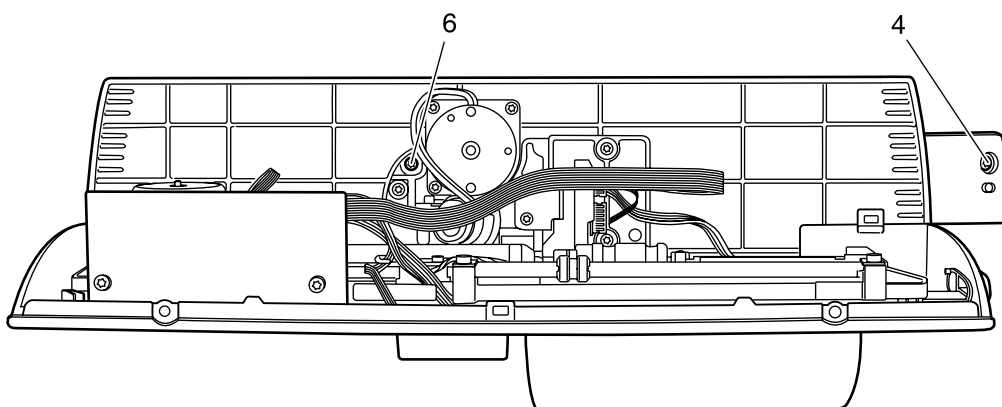

**Fig. 5**
4. Apply the swivel arm topcover and tighten it with the Torx screw 6 (Fig. 5).